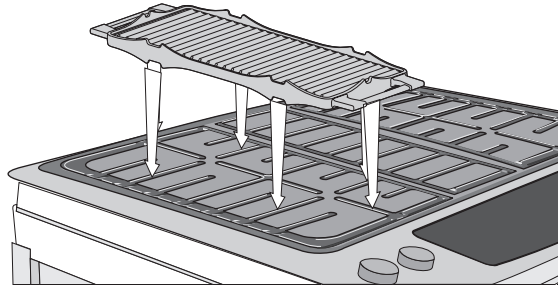

Figure 1
The griddle is intended for direct food cooking and can be used on both sides. **Do not** use pans or other cookware on the griddle. Doing so could damage the finish. With the grate in position over the burner, set the griddle on top of the grate positioning the notches in the griddle over the grate fingers (refer to figures 1 for optimal positioning).
- Always use the broiler pan and its grid when broiling. It allows the dripping grease to be kept away from the high heat of the broil burner (see Figure 1).